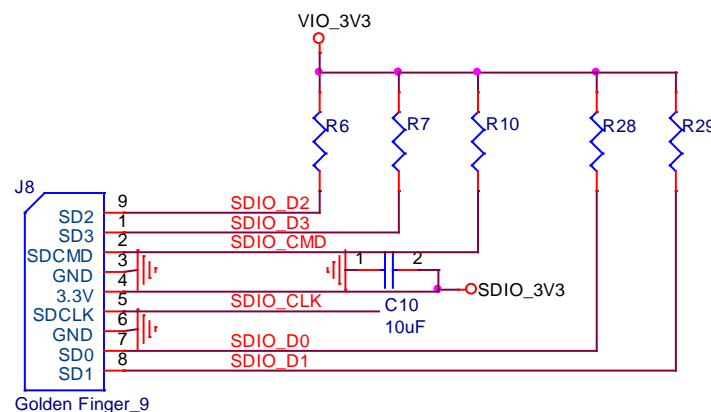

Figure2. WiFi verification connection interface to Host SDIO
- ❖ Refer to Figure2 SDIO pin definition connects the J8 interface of AP6XXX evaluation board to Host SDIO control interface.